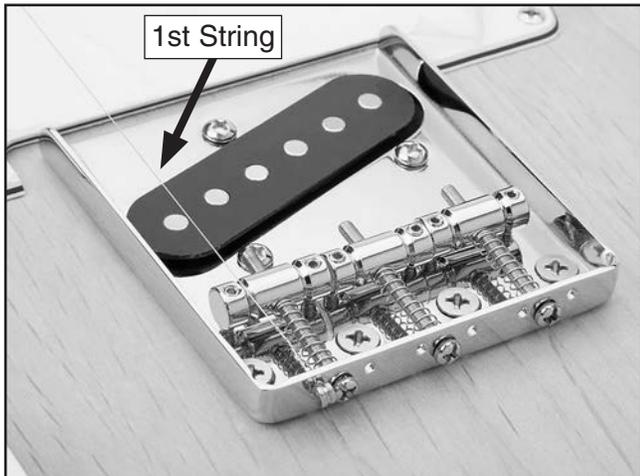

Figure 28. 1st string installed.
1. Slide the 1st string through the corresponding hole in the bridge (see **Figure 28**).